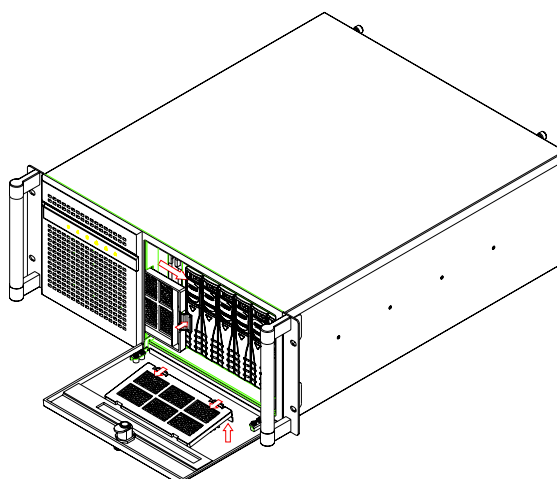

Figure 3.7: Cleaning the filters
3. Clean the filter with a soft brush and wash the dust away from the filter with fluent water. Then dry it. (see Figure 3.7)